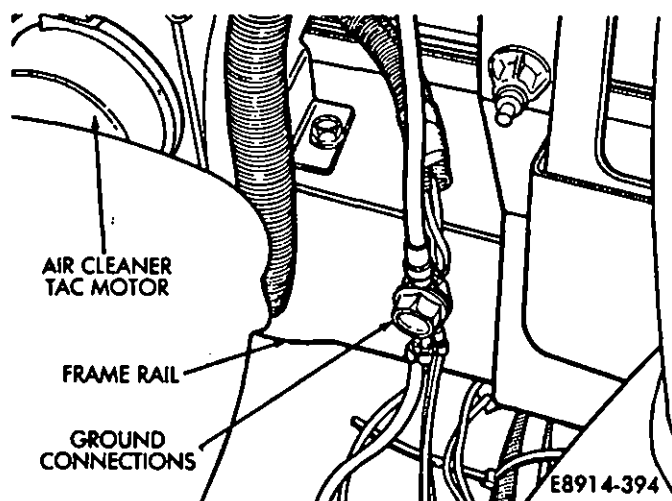

Fig. 20—Engine Control System Ground Connections
(2) Inspect engine control system ground connections on side of frame rail between battery and air cleaner (Fig. 20).